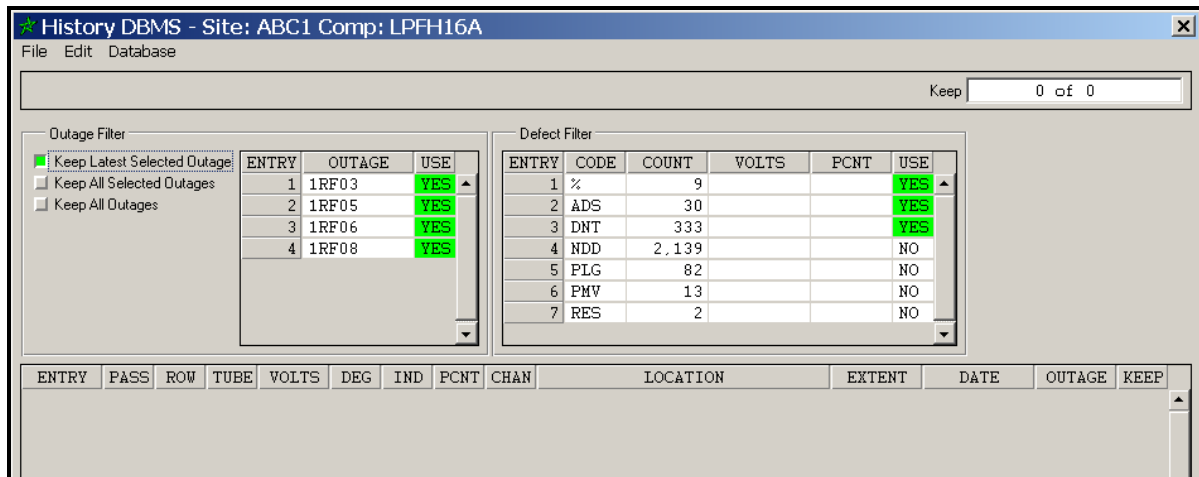

Figure 17. Database | Create History Dialog
- **Database | Create History** displays the **History** dialog shown in Figure 17 (*only the upper half of the History dialog is shown in order to conserve space*). During data analysis, history files are very useful in determining if previous eddy current calls have changed. **DBMS** allows you to create a custom **History** file from previous inspection report entries that reside in a given project's database. The **History** file can then be conveniently referenced manually by the analyst or automatically by the analysis software.